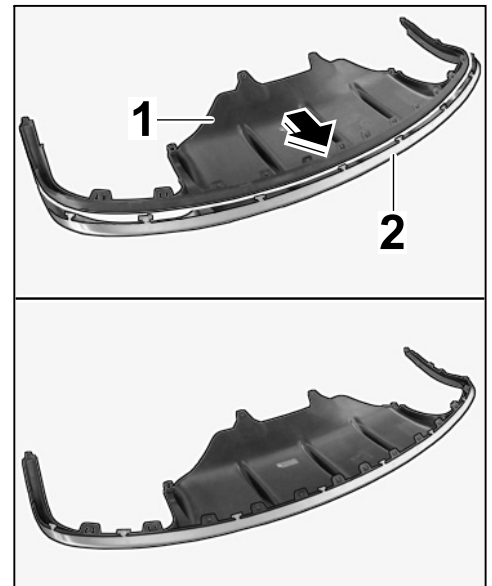

Figure 3
- 2.4 Position standard rear panel ⇒ *Figure 3-1-* in the stainless steel rear trim ⇒ *Figure 3-2-* (⇒ *Figure 3 -arrow-*) (installation position).